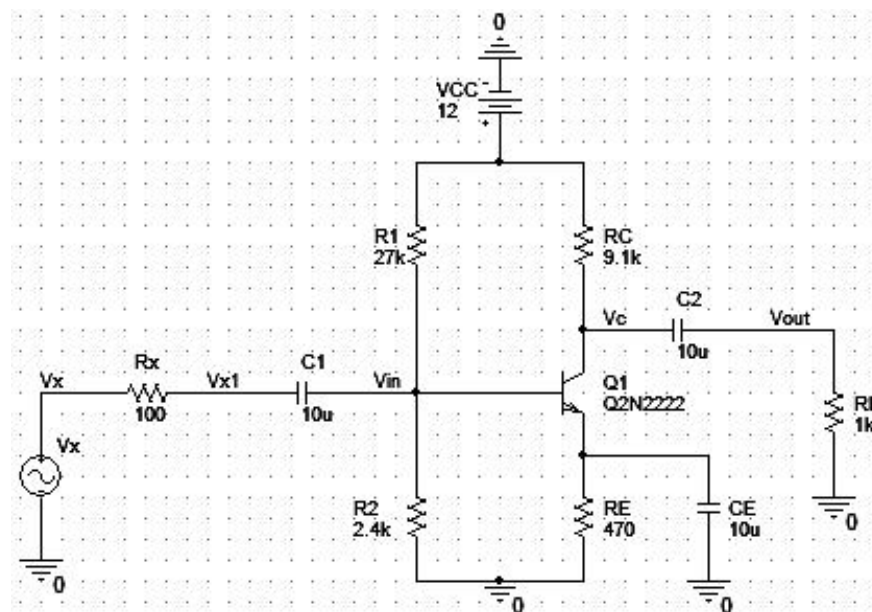

Figure 3: Setup for measuring the input resistance of the common emitter amplifier
14. To measure the input resistance of the amplifier remove R_s and V_s . Connect an external supply V_X (amplitude 100mV and freq. 10 kHz) in series with a resistor $R_X = 100 \Omega$ to the amplifier as shown in figure 3.